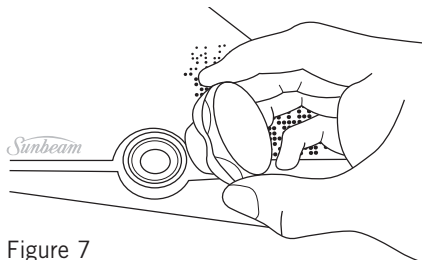

Figure 7
5. Remove the calc clean valve completely. See fig 7.